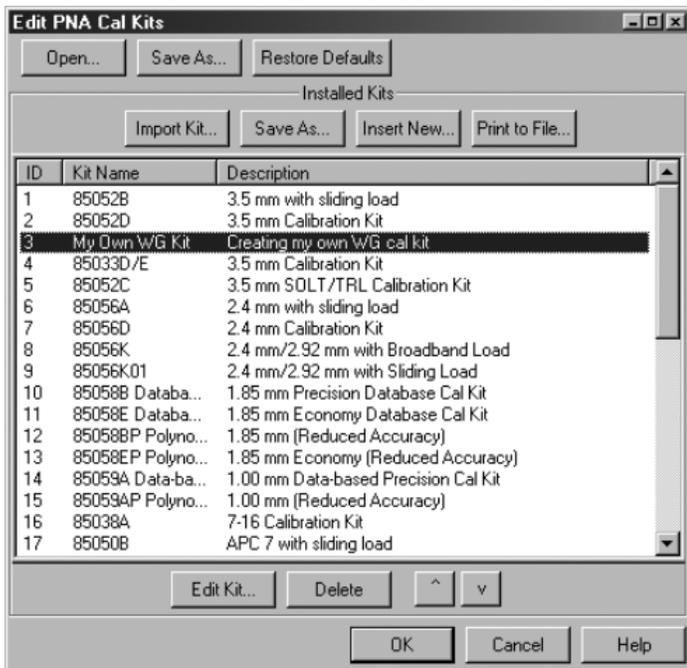

Figure 35. Calibration kit file created, done!
7. Click **OK** when done to return to the “Edit Kit” page, and then click **OK** again to return to the “Edit PNA Cal Kits” page. At this point, you should be able to see the kit that you just created under the list of “Installed Kits” (Figure 35).